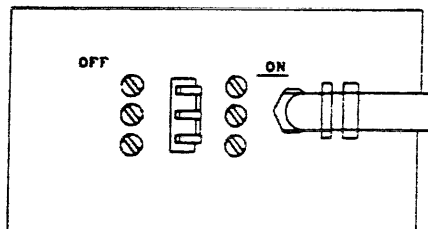

FIGURE 4-5. PRIMARY POWER INPUT CIRCUIT
5. Set the CPU cabinet circuit breaker located at S02 to ON. (Figure 4-5)